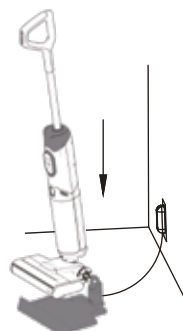

Fig. 15
3. Place the vacuum cleaner onto the base (see Fig. 15).